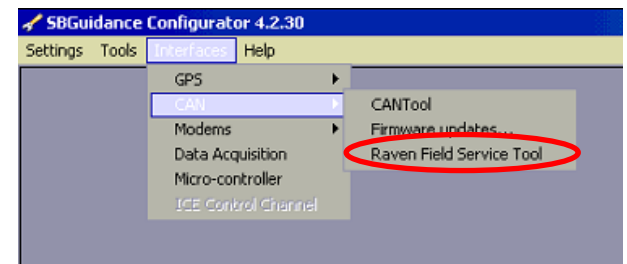

Figure 13 SBGuidance Configurator - Open Raven Field Service Tool.
12. Go to *Interfaces > CAN > Raven Field Service Tool* (Figure 13).
13. Go to *Interfaces > CAN > Raven Field Service Tool* (Figure 13).